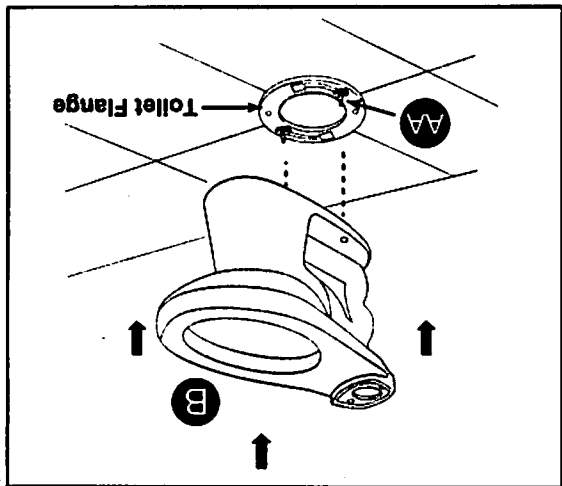

Fig. 3
3. Position Toilet Bowl (B) on Toilet Flange, (Fig. 3)
- Unplug waste opening in toilet flange. Gently place toilet bowl (B) (right side up) in position with the floor bolts (AA) protruding up through the bowl (B) as it is lowered onto the toilet flange.
- Once toilet bowl (B) is in position, press down with a slight twisting motion on the top center of the bowl (B) eventually applying full body weight to evenly compress the wax ring (CC) creating a water-tight seal. (Do not rock the bowl back-and-forth as this may break the seal.)
- Make sure the toilet bowl (B) is as level as possible. It may be necessary to use small wedges (shims) under the edge of the bowl due to slight variations in vitreous china ware or uneven floors. (Toilet bowl (B) should be firmly seated on the floor, so it does not wobble or rock.)